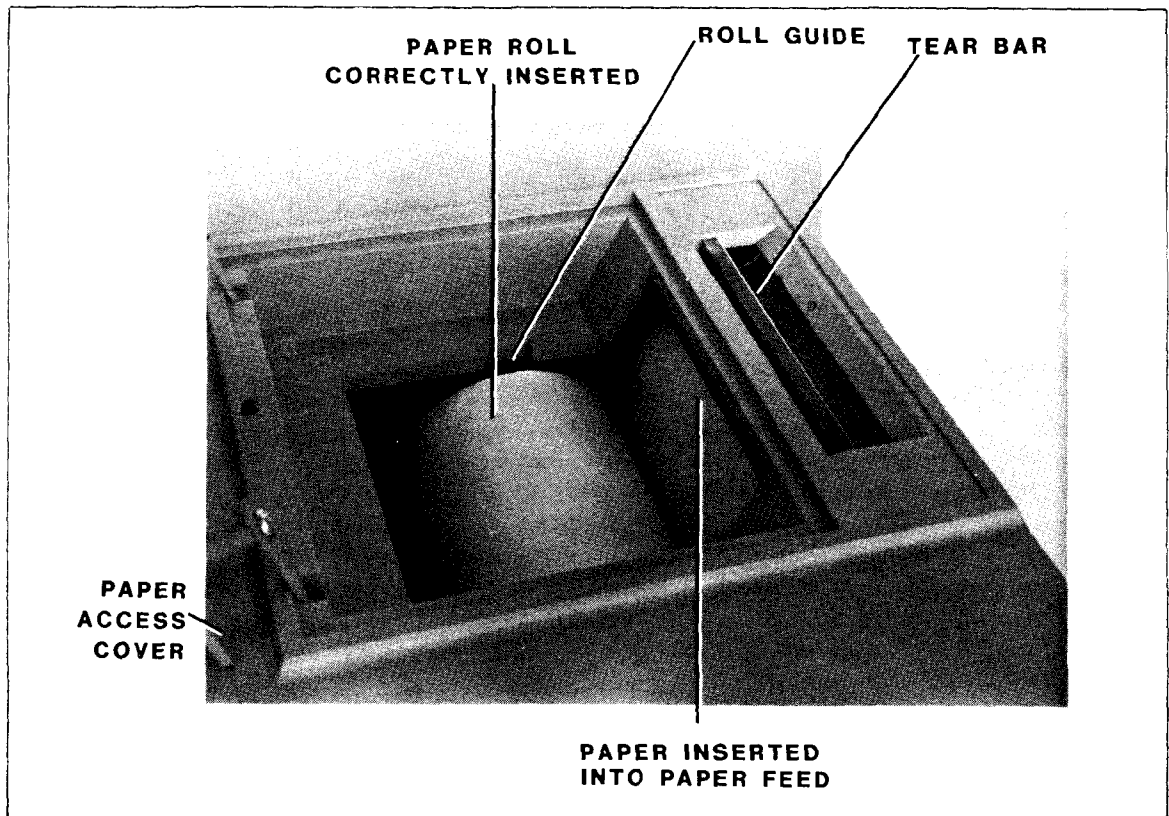

Figure 3-7. Loading Paper in the HP 8451.
Printer paper is loaded by using the following procedure (see Figure 3-7). To perform the following steps, the spectrophotometer must be correctly installed and the instrument must be switched ON.
5. Pull approximately six inches of paper out of the roll and evenly insert the leading edge over and into the grey throat of the paper feed. Continue manually feeding the paper until it halts. Press and hold the paper advance key until the leading edge of the paper passes the top edge of the clear plastic tear bar. Close the hinged access cover, keeping the paper clear. See Figure 3-7.
To verify the printer operation, the CRT display may be copied to the printer by pressing the COPY key on the HP 8451 functional keyboard. If the printer head moves and the paper advances but nothing is printed on the paper, make sure that the HP thermal printer paper is correctly installed (see Figure 3-7). If the printer will not function, contact your HP representative.